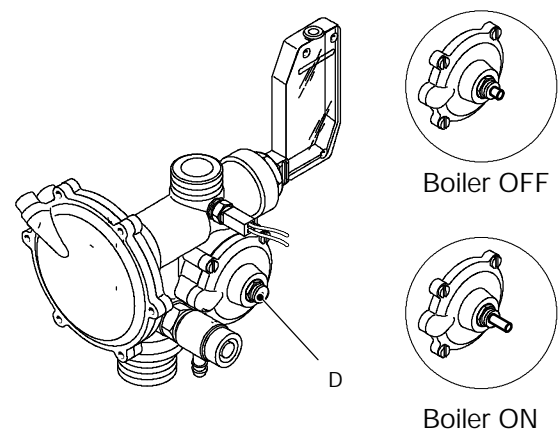

fig. 65
- 3 Start and stop the boiler in c/h operation (time switch and external controls must call for heat) and verify the position of the shaft D referring to fig. 65